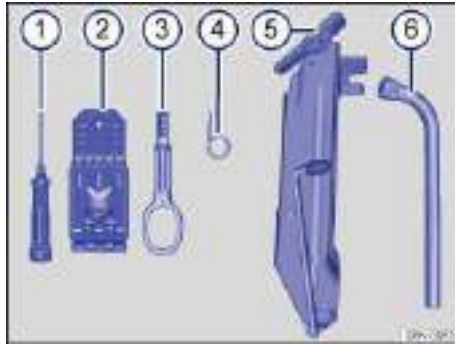
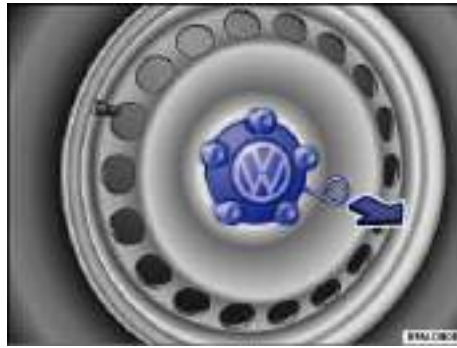

Fig. 186 Contents of the vehicle tool kit.
Fig. 188 Pulling off hubcap.
Contents of the vehicle tool kit ⇒ fig. 186
The folding chock is in the vehicle tool kit ⇒ fig. 186.
- To remove take the wire clip out of vehicle tool kit ⇒ fig. 186 \(4\) and hook it into the edge of the hubcap ⇒ fig. 188.